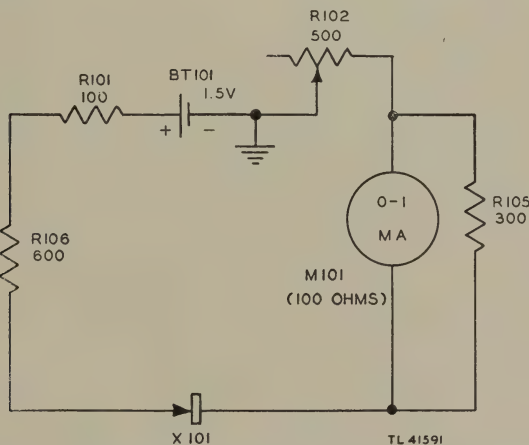

Figure 16. Circuit for forward resistance measurements, schematic diagram.
c. *FRONT RES Position* (fig. 16). When the selector switch is rotated clockwise to this position (position 2), the crystal rectifier under test is inserted into the series circuit described in b above, and the short is removed from the crystal socket holder. The increased resistance in the series circuit, introduced by the crystal rectifier, causes a decrease in the current flow, and the meter will